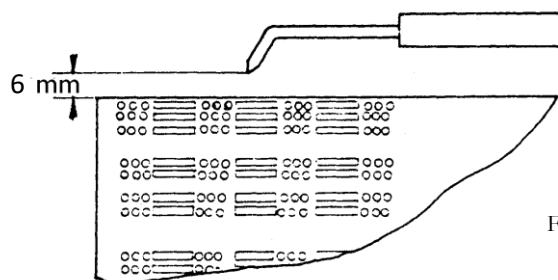

Fig. 2
- Check the starting electrode position (see Fig. 2).